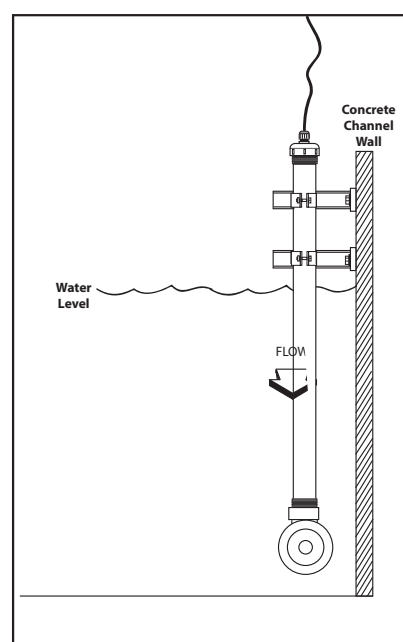

FIG. 30
- I) Slide pipe assembly onto the wall mounting brackets. See FIG. 30.